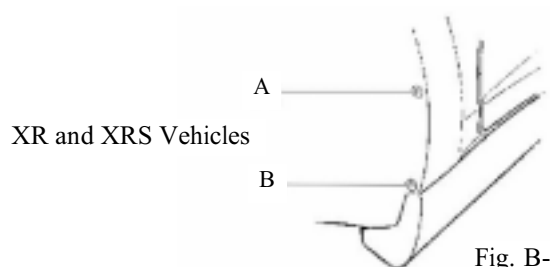

Fig. B-2
2. Identify existing mount holes A and B. (Fig. B-2)